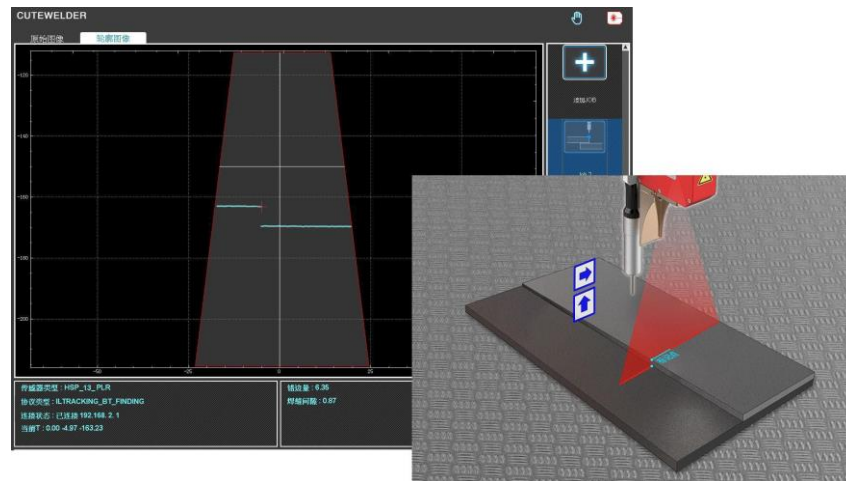

Figure 8-20 Location diagram
Step5. Move the robot to the left so that the laser recognition point is located to the left of the feature point, that is, the laser irradiation mark point, and the red cross feature point under the contour image interface of the CUTEWELDER software is located at the lower left of the image window. As shown in Figure 8-20, click <Record>, and the **x** in front of the record will turn into **✓**.